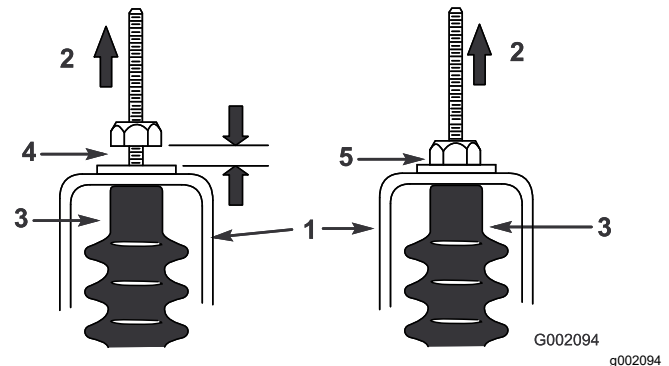

Figure 49
- Pull up on each shift cable and ensure that there is a 0.76 to 1.52 mm (0.03 to 0.06 inch) between the nut/washer and the neutral bracket (Figure 49).